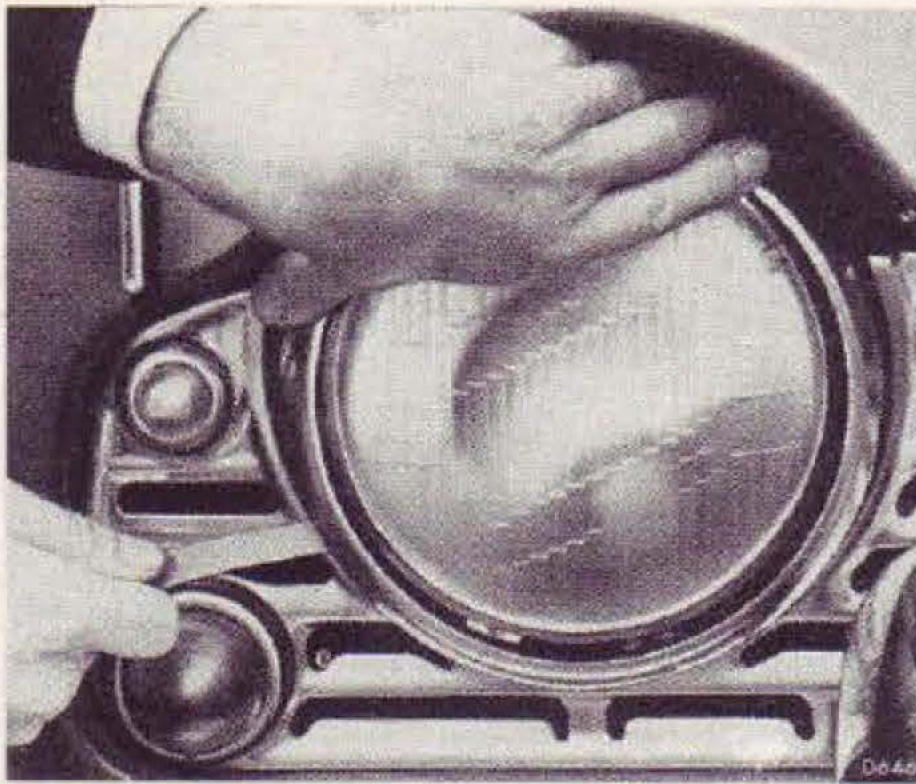
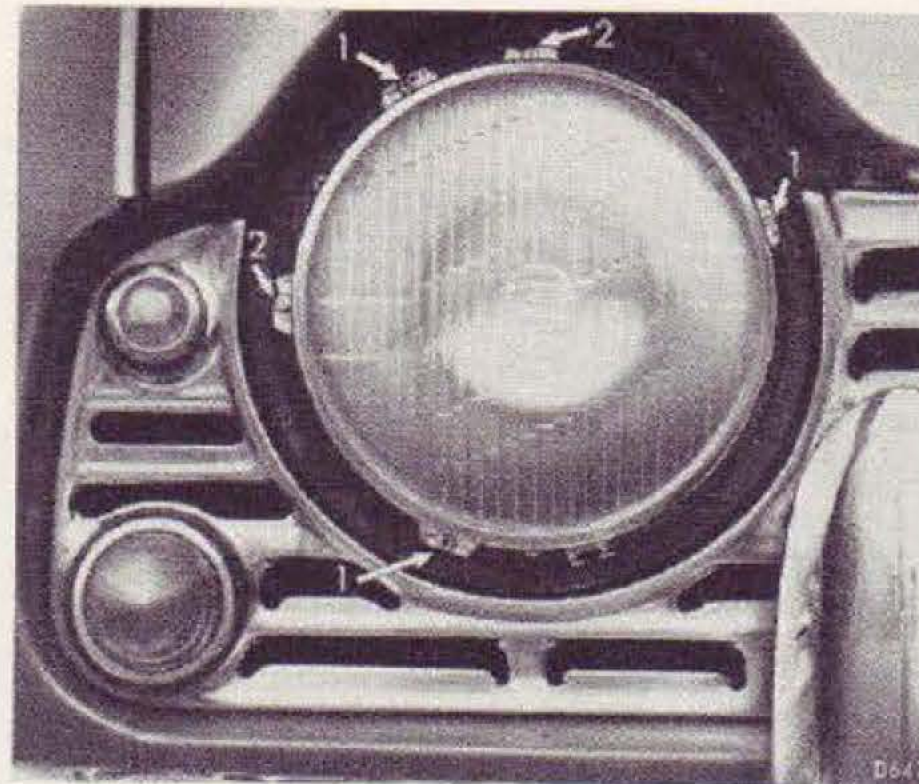
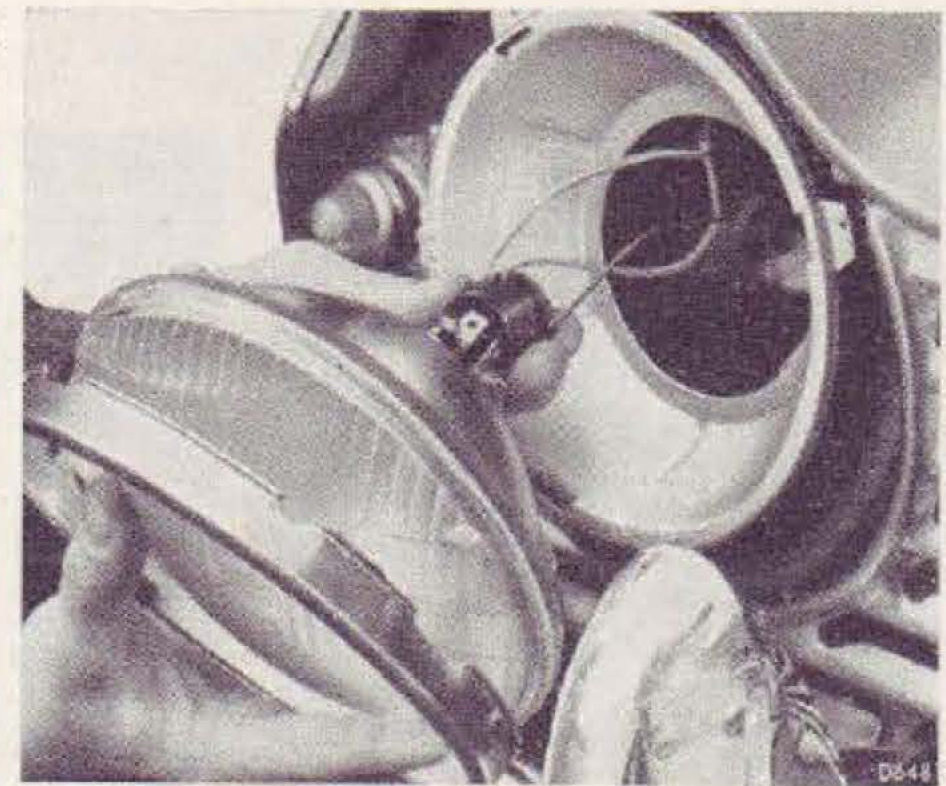

Fig. 56
Fig. 57
Fig. 58
The headlamps are fitted with sealed beam units. Filament failure necessitates light unit renewal. Remove the snap-on rim by inserting the tool, provided in the kit, behind the rim and levering sideways (Fig. 56). Remove the screws (1), Fig 57, and withdraw the rim to release the light unit. Do not disturb the beam aiming adjustment screws (2). Disconnect the plug, Fig. 58.